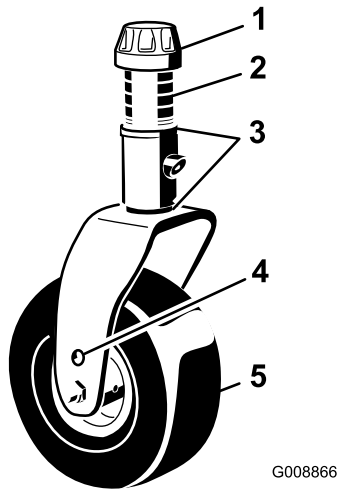

Figure 140
1. Remove the tensioning cap from the caster-spindle shaft and slide the spindle out of the caster arm (Figure 140).
Remove the tensioning cap and caster fork (Figure 140).